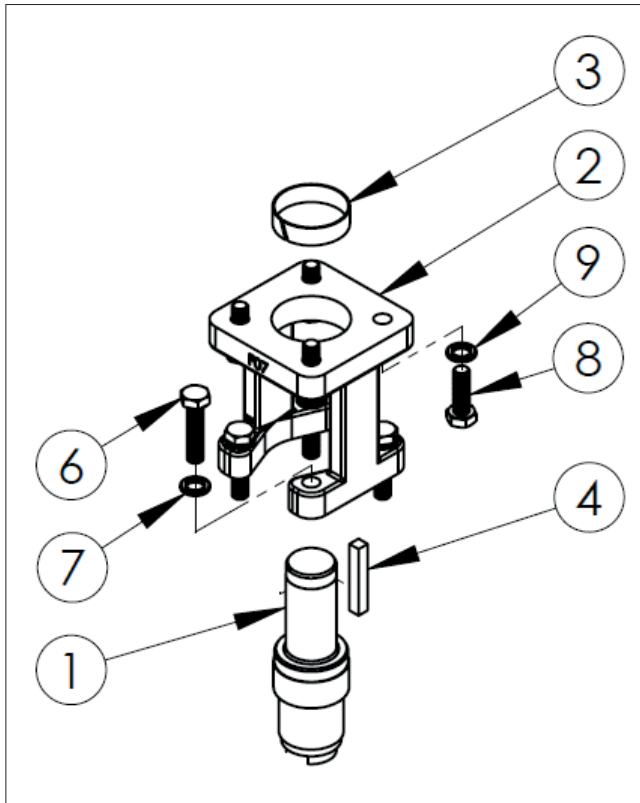

Figure 15. Linkage Assembly – Key Drive
7.3 BRACKET PREPARATION – (SEE FIGURE 15)
Key Drive Actuators (Figure 15): Install the key (4) into the key slot of the coupling (1). The key should be filed to closely fit into coupling and actuator keyway. If the fit is loose, apply Loctite® Keyfit or equivalent.